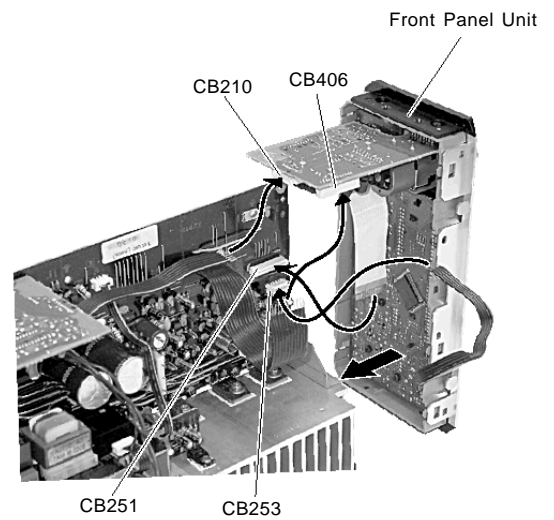

Fig. 5
- h. With the Front Panel Unit set on its side, connect 4 connectors (CB251, CB253, CB210, CB406) in Fig. 5.